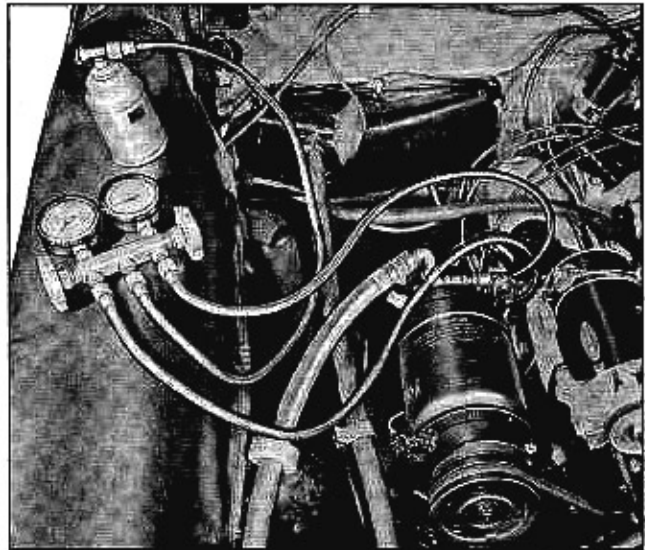

Fig. 7-41 Charging the System—Pontiac Shown (Disposable Single Can Method)
3. Connect center flexible line of gauge set to the fitting on a can opener valve. (See Fig. 7-41).
(1) Make sure the outlet valve on the J-6271 Fitz-All Valve is fully clockwise and attach the J-6271 to a "one pound" can of refrigerant as follows: back off the valve from the top of the retainer, slip the valve onto the can and turn the valve into the retainer until tight. Do not open outlet valve during this operation as turning the valve into the retainer punctures the top of the can to make it ready for charging.
(2) Connect center flexible line of gauge set to the fitting of the valve (Fig. 7-41).
(3) Start engine, move temperature control knob to full cold position and place blower knob on "HI" speed. Operate engine for five minutes at 1500 RPM to stabilize system.
(4) With compressor operating, open valve on refrigerant can slowly and allow refrigerant to flow into system (through suction side of gauge set) until liquid indicator clears up and immediately shut off valve at gauge set and on refrigerant can. Check weight of can and valve assembly and record, then add one-half pound refrigerant. It may be necessary to attach another can to obtain the additional one-half pound refrigerant.